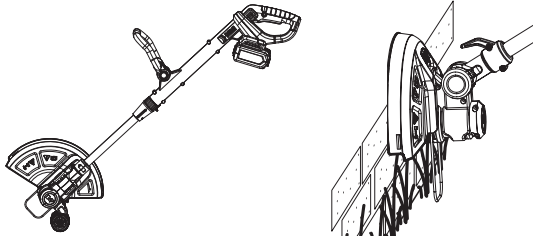

Fig. 21
1. Make sure that the knife protector (11d) is removed, the plant protector (12) is pulled out and the battery pack (16) is assembled before operation
2. Attach the edger wheel (18) to the edger support (14a).
3. Adjust the main handle (1) angle to 90° or 180° for edging (Fig. 21).